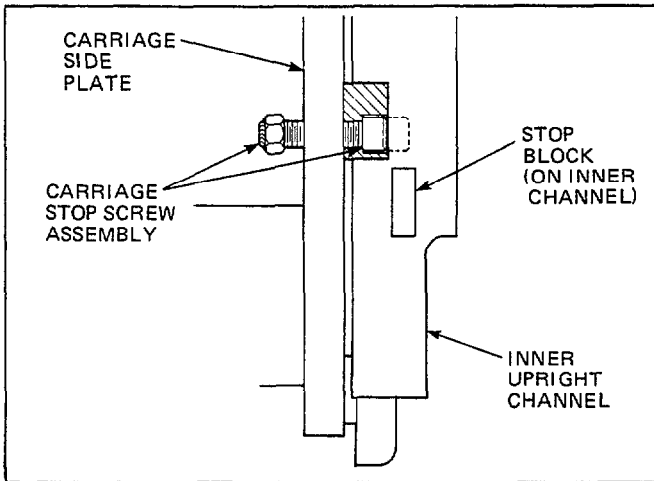

Figure 23. Carriage Stop Screw Assembly
- Back out the two carriage stop screw assemblies. A stop screw assembly is comprised of a nut welded to a socket-head capscrew. See Figure 23. By backing out the nut that extends through the carriage side plate, the socket head of the screw will clear the stop block on the inner channel upright. You may have to extend the carriage to gain access to the stop screw assemblies.